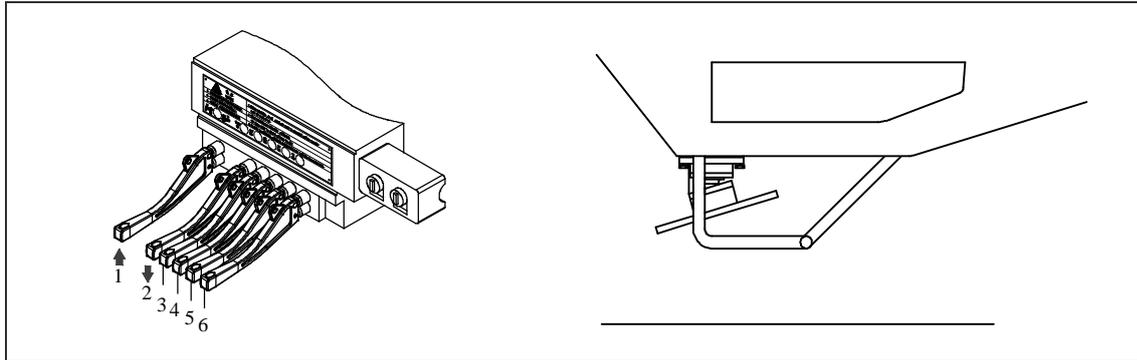

Figure 04 – 22
c) As illustrated in Figure 04 – 23: